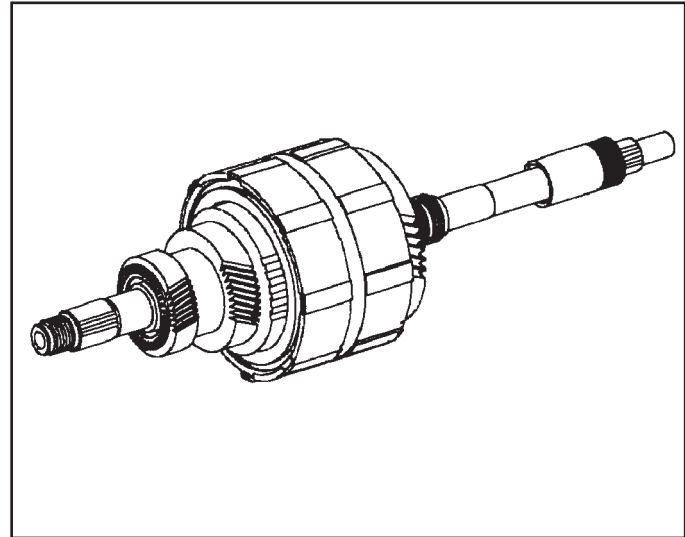

Figure 129
20. After the rings are installed, use the seal sizer by rotating the tool and pushing lightly onto one seal at a time until all three rings have been re-sized (See Figure 129).